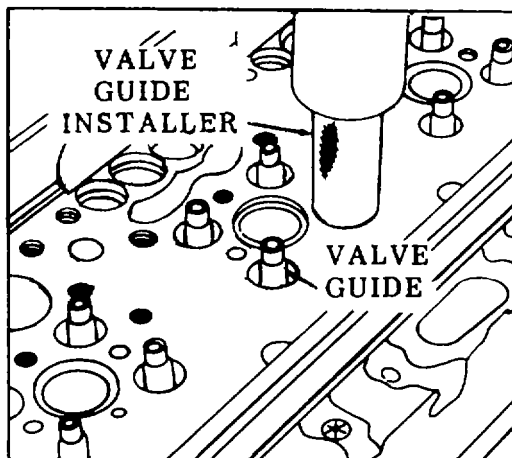

Figure 4-20. Valve Guide Installation.
- (20) Refer to figure 4-20 and position the valve guide squarely into the bore.
- (21) Use the installing tool to start the guide into the bore.
- (22) Press on the installation tool until the tool contacts the cylinder head.
- (23) Use the valve bridge installation tool and perform steps (20) through (22) for the valve bridge guide.